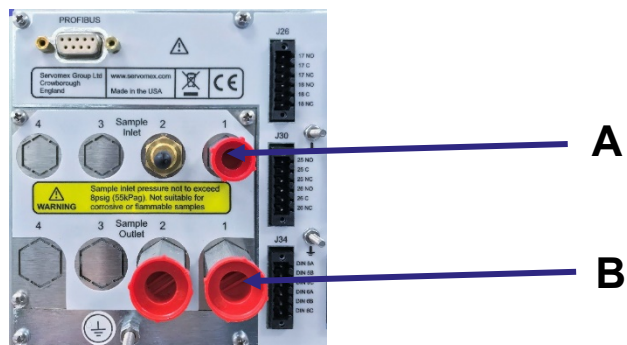

Figure 3-6: Gas inlets and outlets for two sample streams.
Sample and calibration gases pass into the analyzer via Sample Inlet 1 (Figure 3-6 A) and out via Sample Outlet 1 used (Figure 3-6 B).
Sample Inlet 2 and Sample Outlet 2 are installed if required for a Nitric Oxide (NO) transducer (for use with an external Nitrogen Dioxide (NO₂) converter) or a Carbon Monoxide (CO) transducer. (see Figure 3-6).